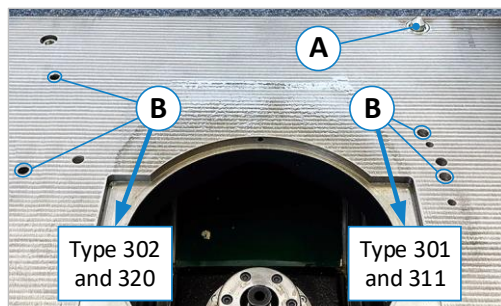

Figure 24: Locking bolts and detent holes
Placing and aligning the fence on the machine table is identical for all fence types (301, 302, 311 and 320). However, the position of the centring pins (Z) is (seen from the front) on the right side of the fence for types 301/311 and on the left side for types 302/320 (see ⇒ Figure 24).